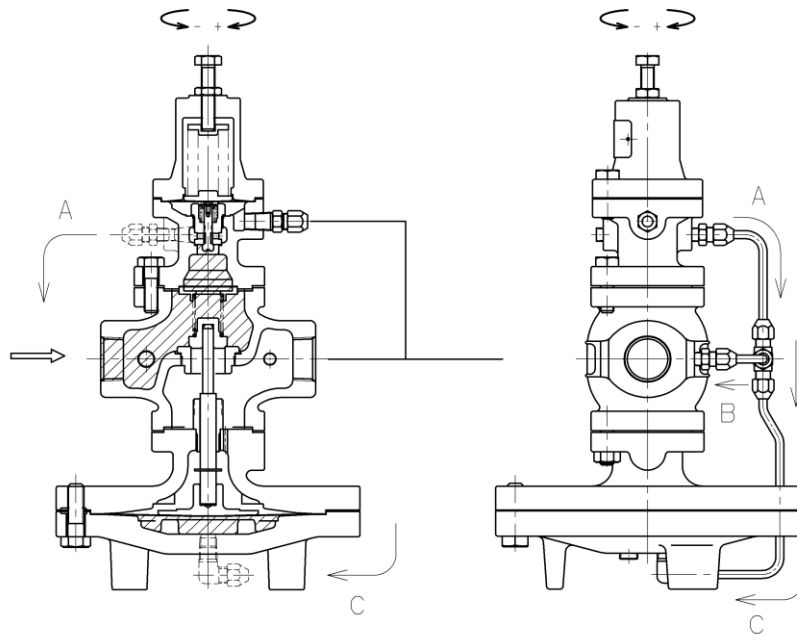

Fig. 2
- (2) Turning the adjusting screw [27] clockwise compresses the spring, which bends the pilot diaphragm [23] to open the pilot valve [17]. The fluid which passes through the pilot valve [17] and pilot valve seat [18] enters the main diaphragm chamber [12-1] via the pipe A [34] and pipe C [36]. The fluid also flows to outlet side of the body [1] through the pipe B [35] and the orifice of the joint B [31] connected to the body (see Fig. 2 below).